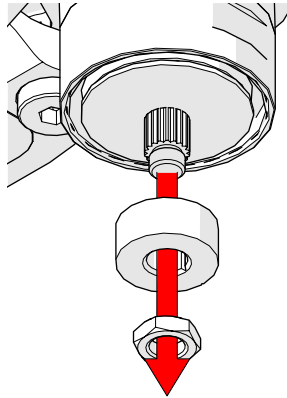

Fig. 193 - Remove nut and drive wheel
3. Remove the nut and drive wheel from the idler shaft (Fig. 193).